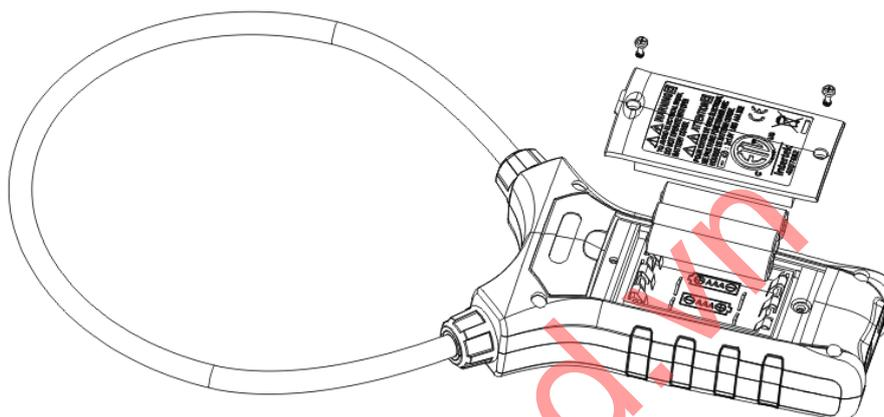

Figure 6
13、 Maintenance and Repair (Figure 6)